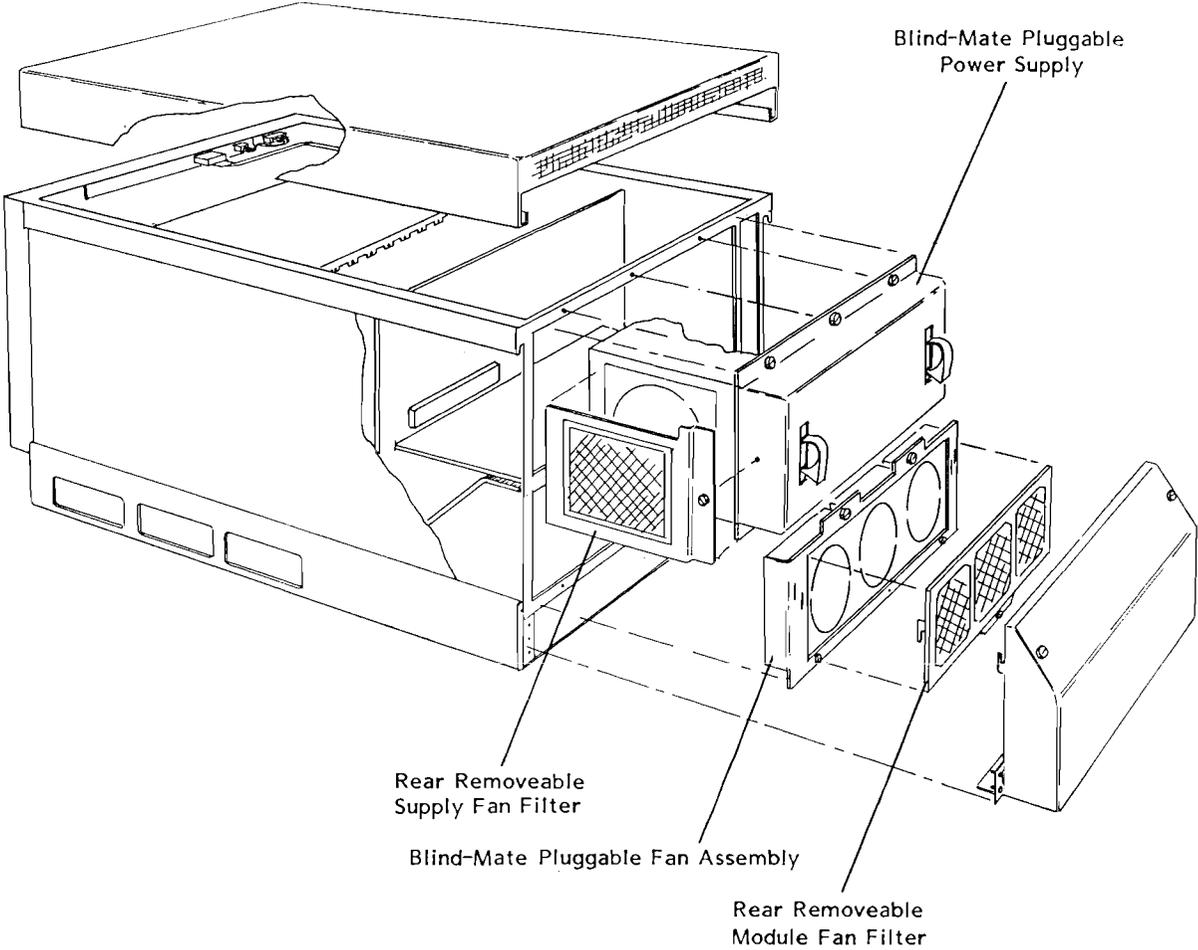

Figure 1-3 Modular Service Friendly Mainframe Design Features
- **Plug-in Power Supply and Fans.** The 1261B/BL modular system design results in a virtually wireless mainframe with low MTTR and high MTBF. See **Figure 1-3**.